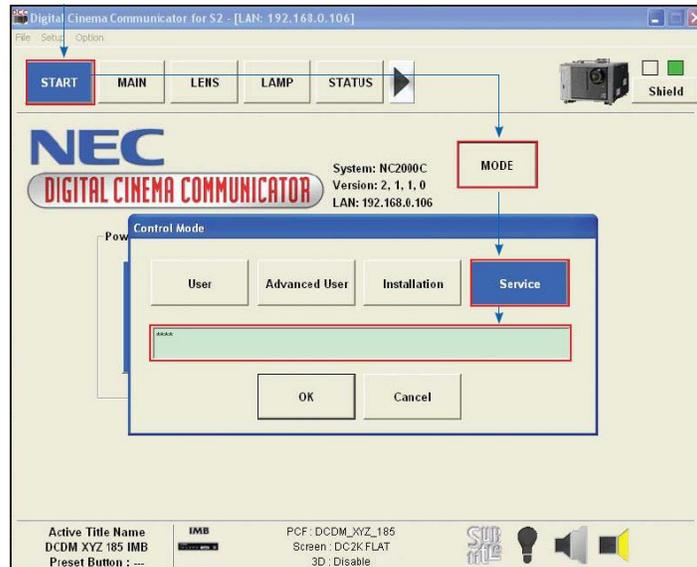

Figure 23 Service Mode on NEC Digital Cinema Communicator.
3. Select **[Start]** → **[Mode]** → **[Service]** and enter the Service password to activate service mode operation (as shown in Figure 23).